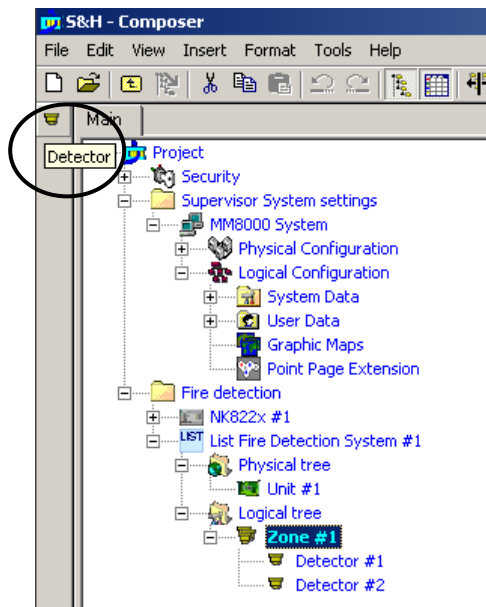

Fig. 15 Adding detectors to a Zone
6. Select the zone nodes and add the detectors associated to each zone. (Fig. 15)